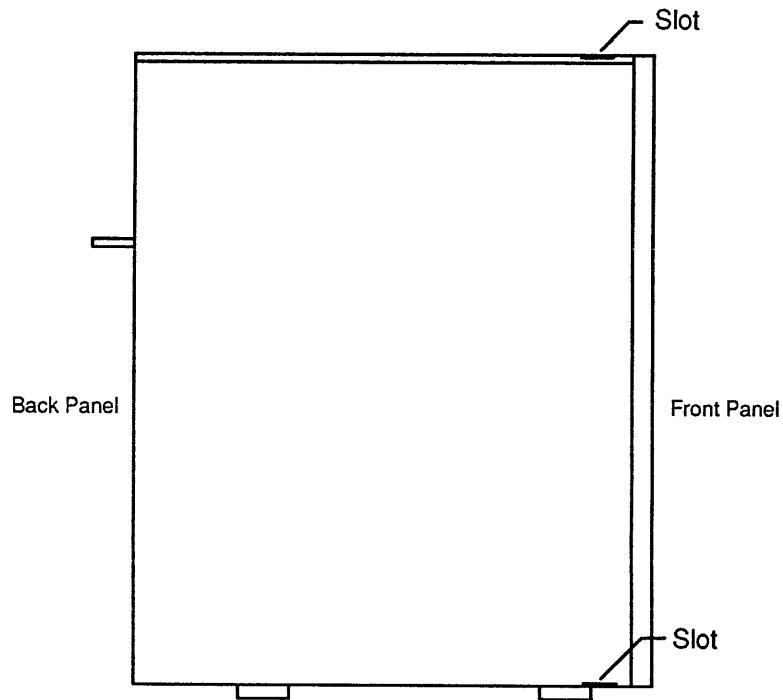

Figure 2.7. Location of Latching Tab Slots
1. Align the latching tabs on the side panel with the slot at the top and the slot at the bottom of the computer chassis. See Figure 2.7.